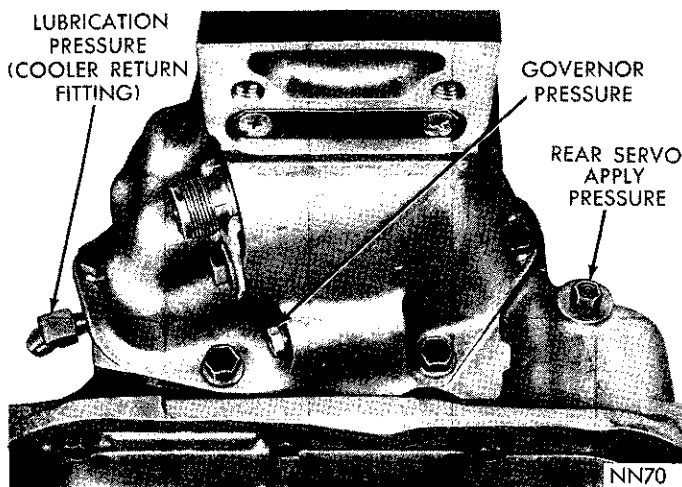

Fig. 13—Pressure Test Locations (Rear End of Case)
(1) Install a "tee" fitting between cooler return line fitting and fitting hole in transmission case at rear left side of the transmission case (Fig. 13). Connect a
(1) Connect a 0-300 psi pressure gauge, Tool C-3293 to apply pressure take-off point at rear servo (Fig. 13).
(2) With transmission control in R (reverse) position and engine speed set at 1600 rpm, the reverse servo apply pressure should be 230 to 300 psi.
(1) Connect a 0-100 psi pressure gauge, Tool C-3292 to governor pressure take-off point, located at lower left side of extension near the mounting flange (Fig. 13).
(2) Governor pressures should fall within the limits given in the "Governor Pressure Chart."